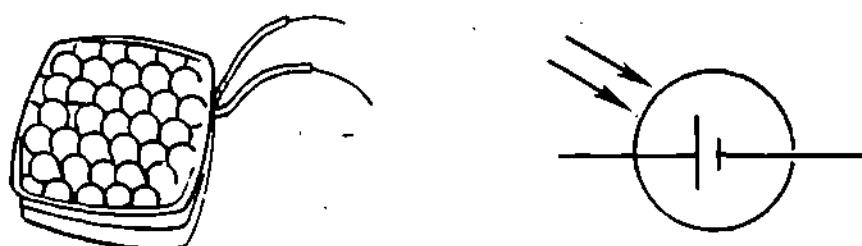

Figure 12
(14) A device which converts light energy into electrical energy is called a photovoltaic cell. More popular names you have heard are "solar cell" and "solar battery". A solar cell is a device that acts like a battery with light providing the energy source. An example of a solar cell and the schematic symbol are shown in Figure 12.